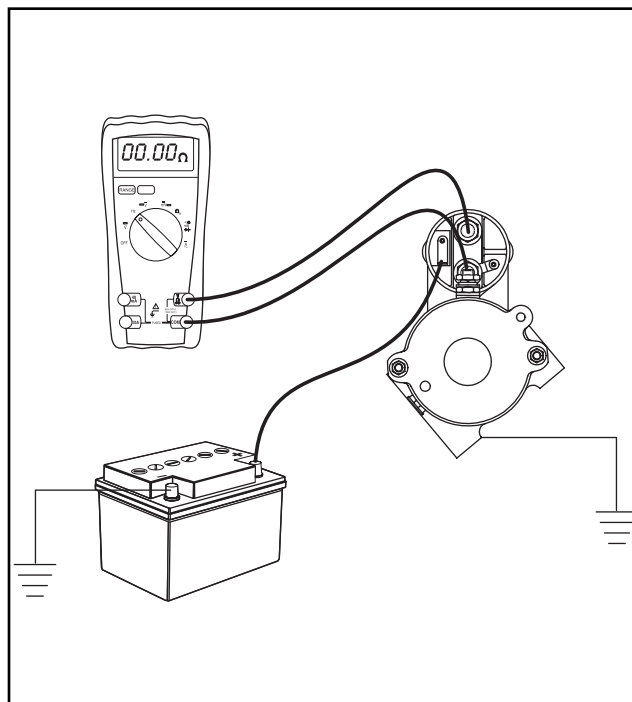

Figure 6-3. Testing Solenoid
9. Attach one meter test lead to each stud terminal on the solenoid (Figure 6-3).